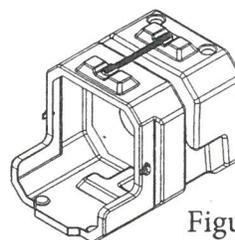

Figure 8.
- d. Clean the empty housing (Fig. 8) before fitting the replacement O-ring and HEPA Cylinder.